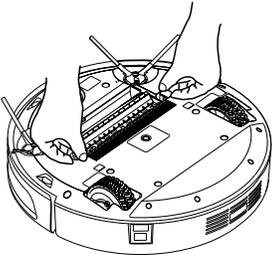

Fig.1
1. As shown in Fig. 1, pick the U shaped clip each side of the sweeping bracket simultaneously with both index fingers to remove sweeping bracket.